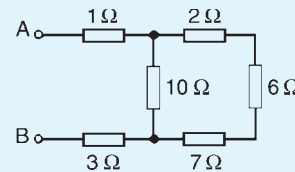

Figure 13.92
7. The equivalent resistance across terminals AB of Fig. 13.92 is: